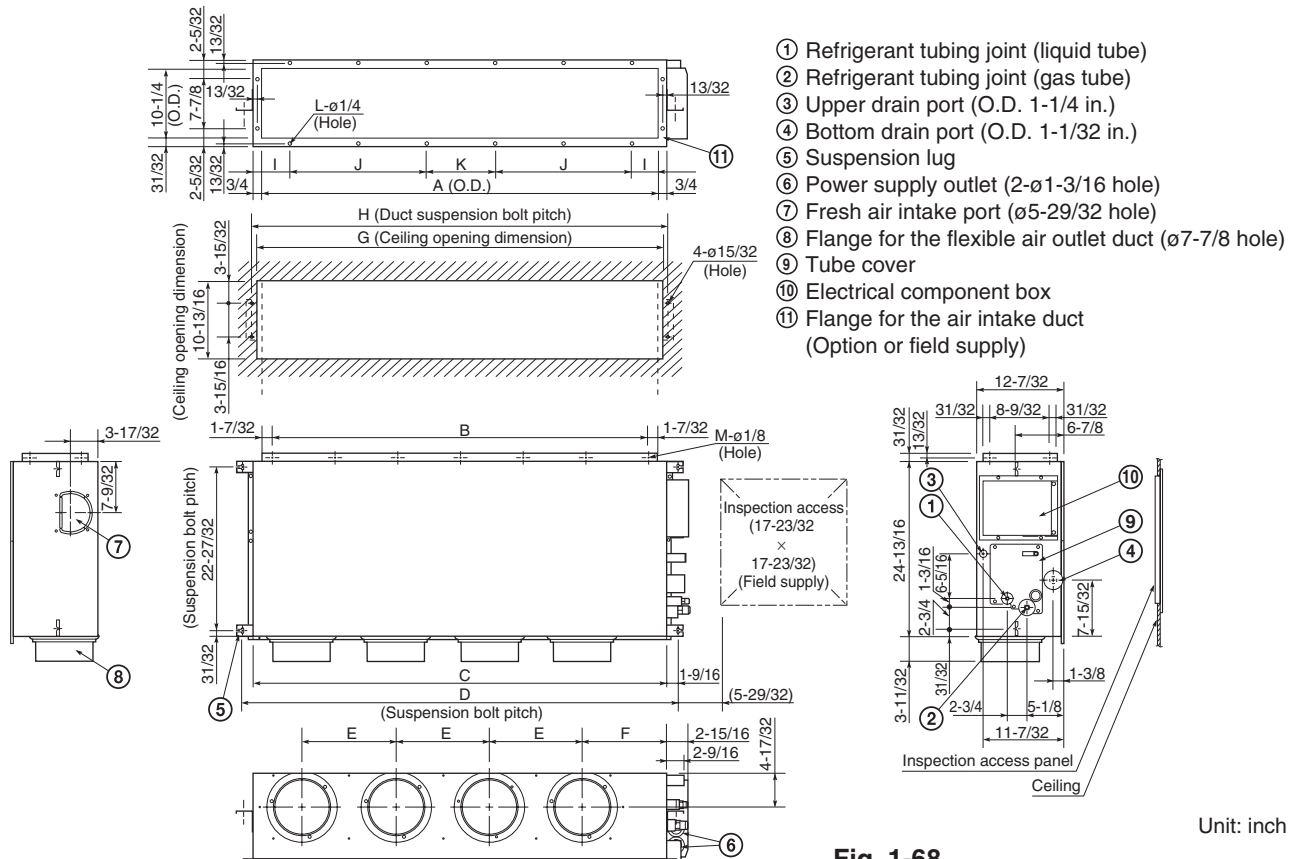

Fig. 1-68
- Fig. 1-68 and Table 1-8 show the detailed dimensions of the indoor unit.
- (1) When placing the unit inside the ceiling, determine the pitch of the suspension bolts referring to the dimensional data on the previous page. (Fig. 1-68)